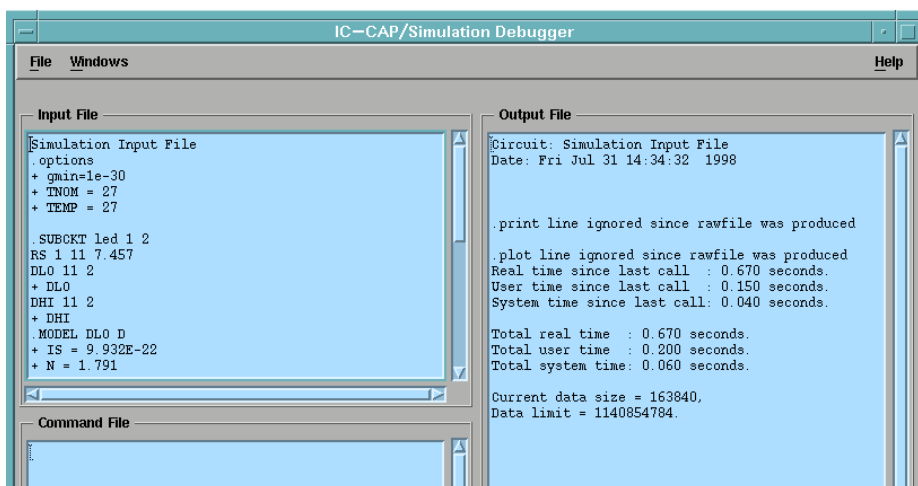

Fig.4: The Simulation Debugger window.
6. IC-CAP reads the binary file and places the simulation results under the Output icons of the Setup window. The ASCII file is only read if the Simulation Debugger window is open. Otherwise, this file is ignored. (See fig.4)